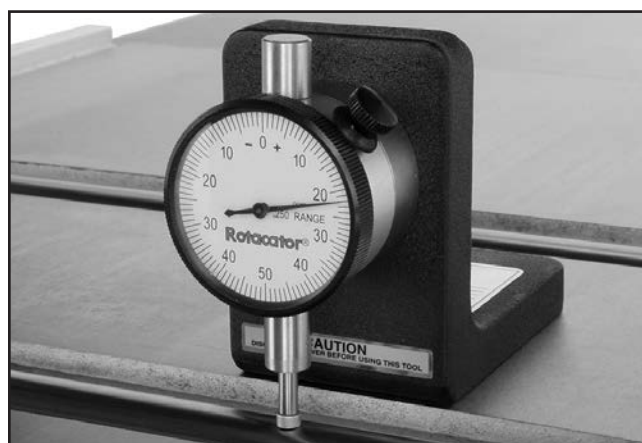

Figure 44. Rotacator measuring table roller protrusion.
- **Rotacator** — A rotating dial indicator on a magnetic base. This handy device allows you to set your table within 0.001" from being parallel with the cutterhead. The Rotacator is indispensable when adjusting the chip breaker, table rollers, feed rollers, and measuring table roller protrusion shown in **Figure 44**.